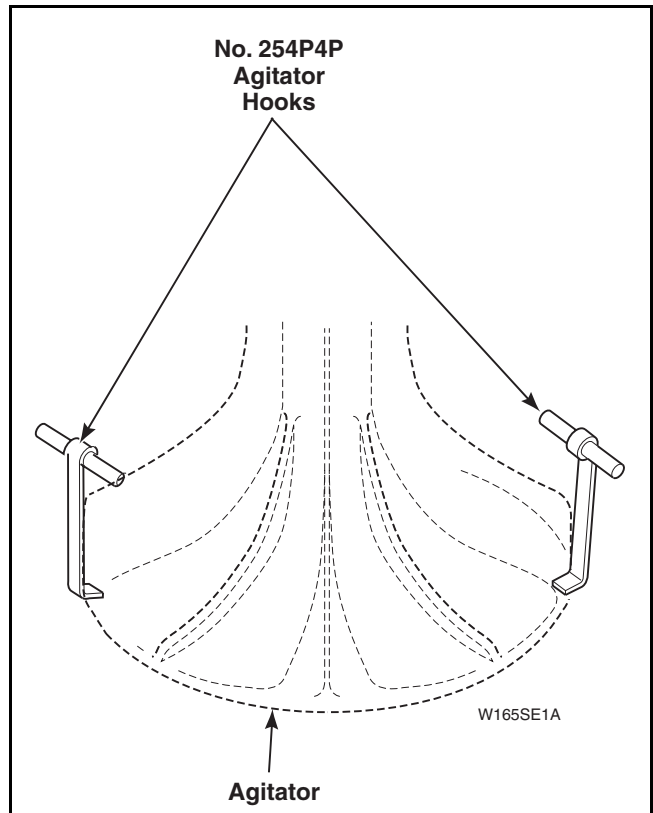

Figure 12
- Remove agitator by placing two agitator hooks, No. 254P4P, under bottom edge of agitator. Refer to *Figure 12*.